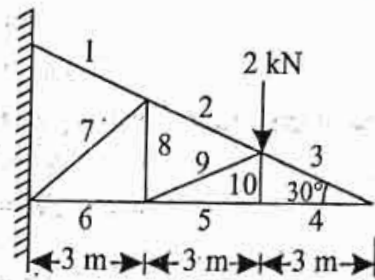

Fig. 11.39.
3. A cantilever truss carries two vertical load as shown in the Fig. 11.39. Find the magnitude and nature of stresses in the members 2, 9, 5 and 10 of the truss.